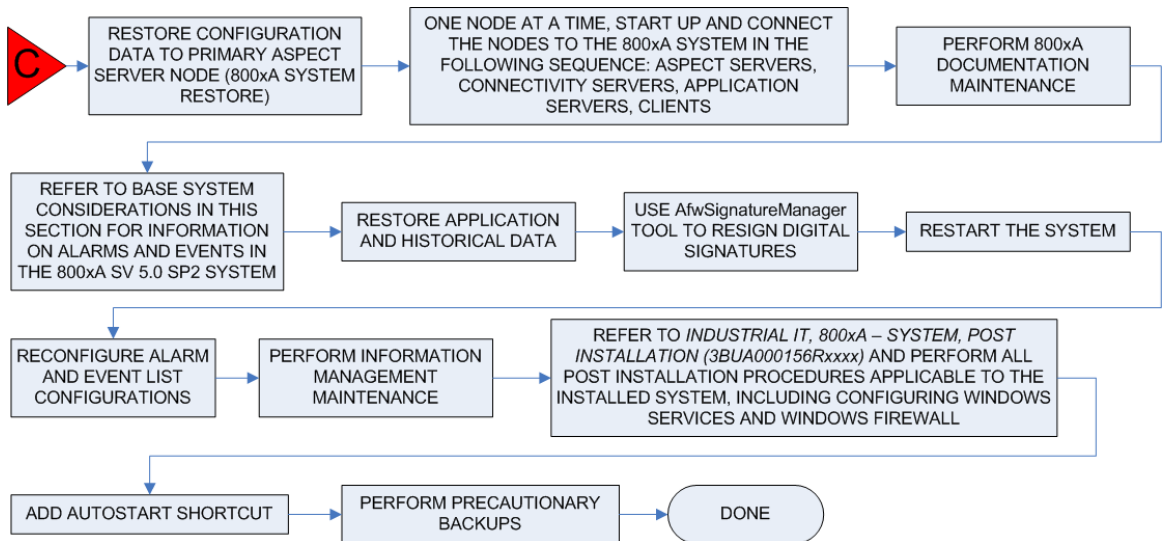

Figure 4. System Restore and Post Upgrade Flow
- 800xA System software and configuration data upgrade (Figure 4).